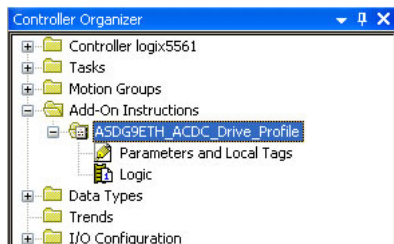

Figure 88: AC/DC Drive Profile AOI
- 2) Right click on “Add-On Instructions” in the controller organizer view and select “Import Add-On Instruction”. Browse and import the AC/DC drive profile AOI. Refer to Figure 88.